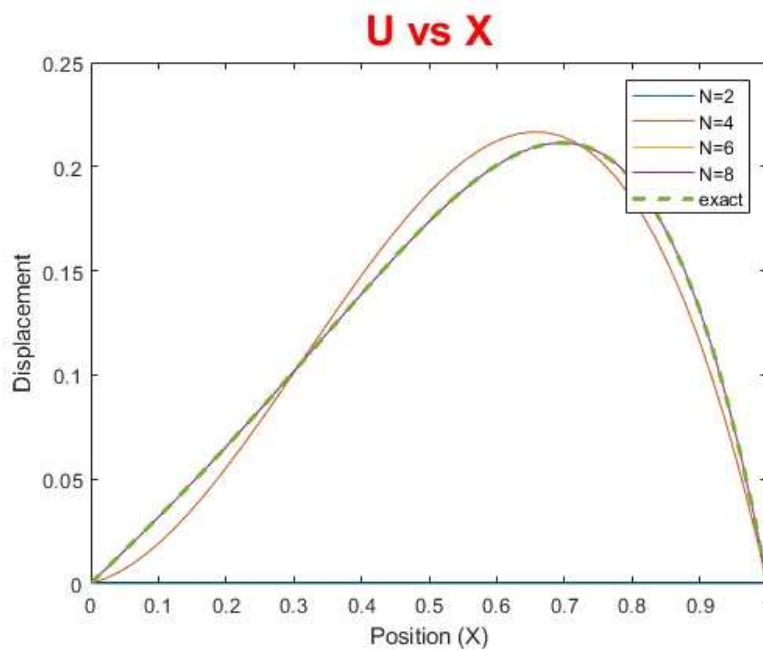

Figure 13
- ❖ From figure 13 we can see that essential boundary condition (displacement boundary condition) is always satisfied for any N.
- ❖ here for figure 13, N=2 order basis function is giving worst results as it consists of lowest order Lagrange polynomials (i.e., Linear functions). Whereas N=4, N=6, N=8 giving good results comparatively.